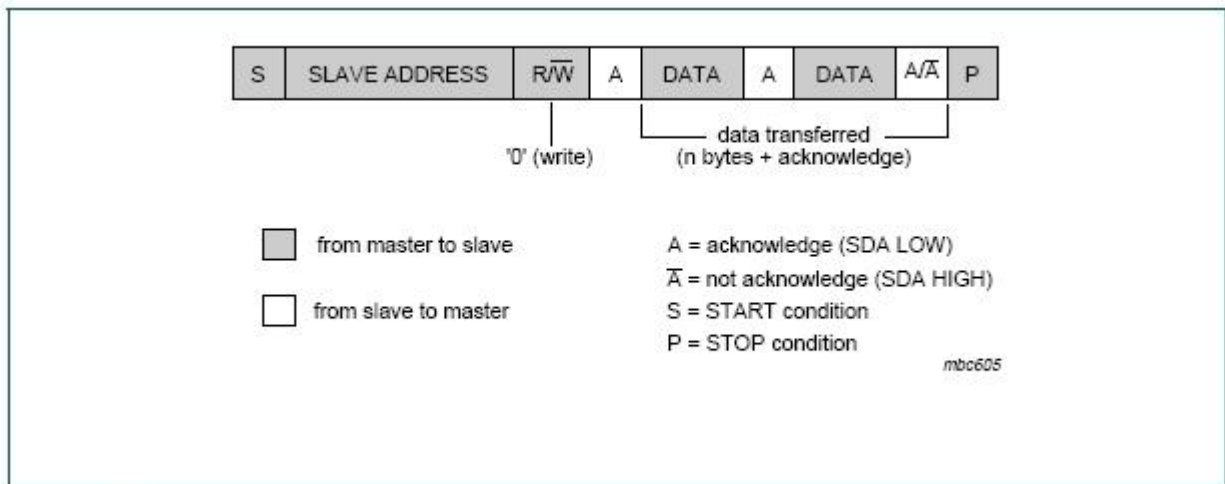

Figure 19: I2C Master/Slave Interaction
The most significant difference in these two interface mechanisms lies in their addressing schemes. Each I2S/SPI device has its own chip select (CS) input. The I2S/SPI master selects any given I2S/SPI slave device by activating its chip select (for the QF1Da512, pulling it low). At any given time, only one I2S/SPI slave will be selected, so any commands sent are responded to by that device. The I2C interface does not use chip selects. All I2C slave devices receive every command and the addressing scheme, imbedded in the software protocol, determines which slave is to respond to the command (see figure 19).